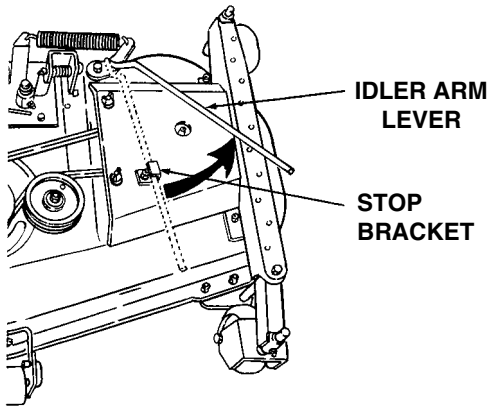

Figure 47
- Lower the mower deck by moving the implement lift handle to its lowest setting. Disengage the deck idler arm lever from its stop bracket and release the spring tension by rotating the lever out and rearward (Refer to Figure 47).